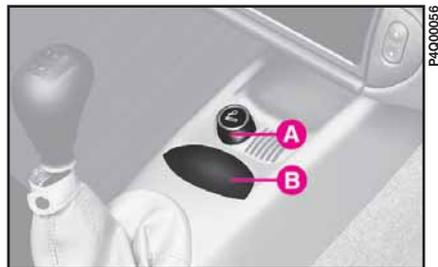

fig. 50
2) To open the ashtray slide flap **B-fig. 50**.